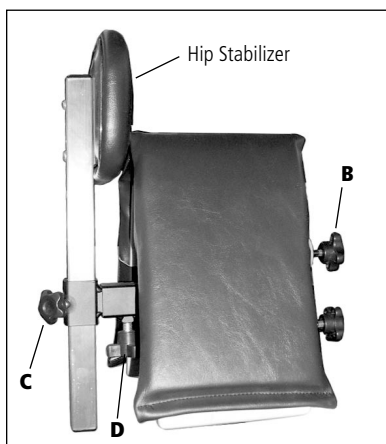

Figure 7
To adjust the height of the hip positioner, loosen knob (C), slide hip stabilizer to proper position and tighten knob (see figure 7).